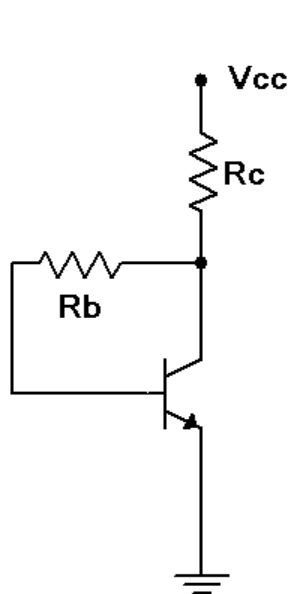

Figure 7.1
1. Consider the circuit of Figure 7.1 using  $V_{cc} = 12$  volts,  $R_b = 220$  k $\Omega$  and  $R_c = 1$  k $\Omega$ . Determine the ideal end points of the DC load line and the Q point, and record these in Table 7.1.
3. Build the circuit of Figure 7.1 using  $V_{cc} = 12$  volts,  $R_b = 220$  k $\Omega$  and  $R_c = 1$  k $\Omega$ . Measure the base, emitter and collector voltages and record them in the first row of Table 7.2 (Experimental).